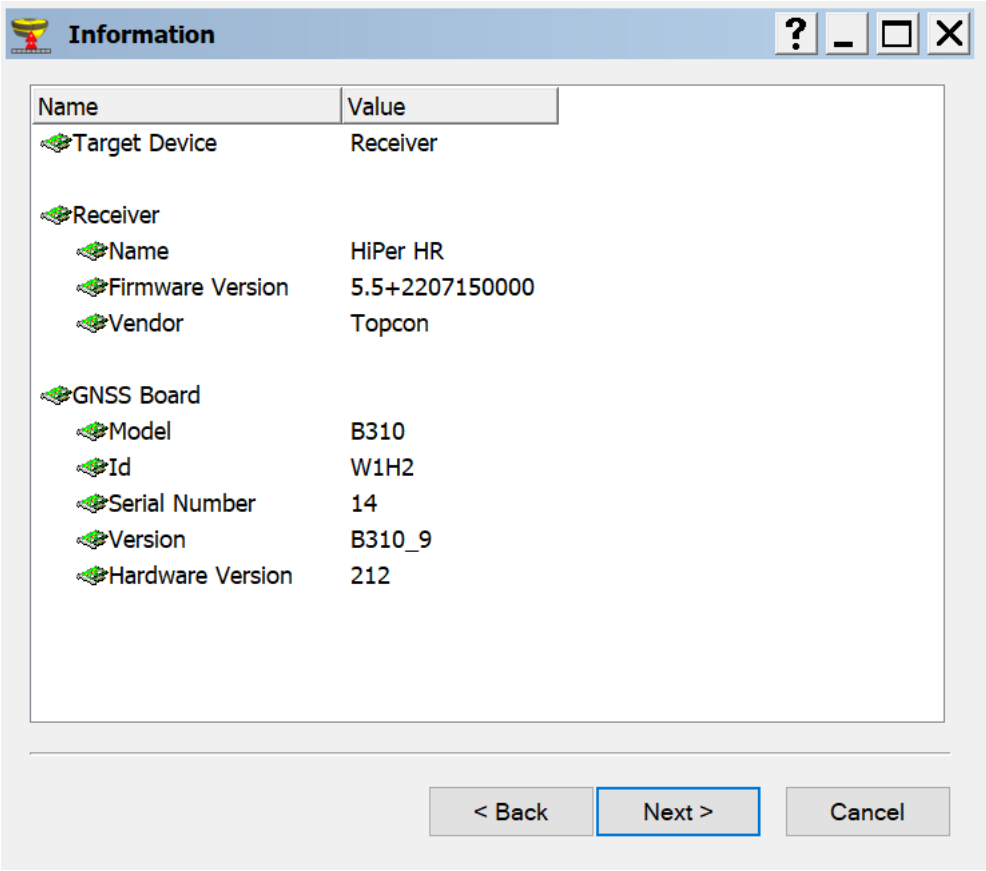

Figure 5-5: Information Screen
13. Select **Next**. The **Information** screen opens (Figure 5-5).